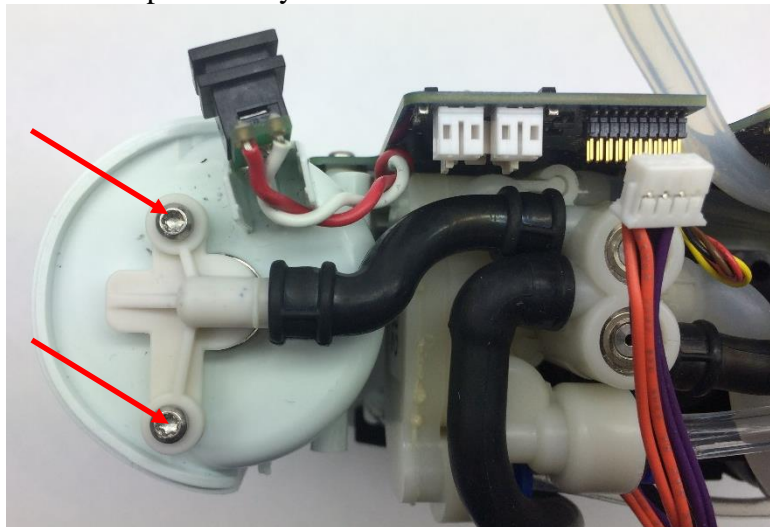

Figure 10: Column Receptacle screws
3. Remove the two screws from the Column Receptacle attached to the Short Column Tube (Figure 10). Lift the receptacle away from the chassis to free the manifold.